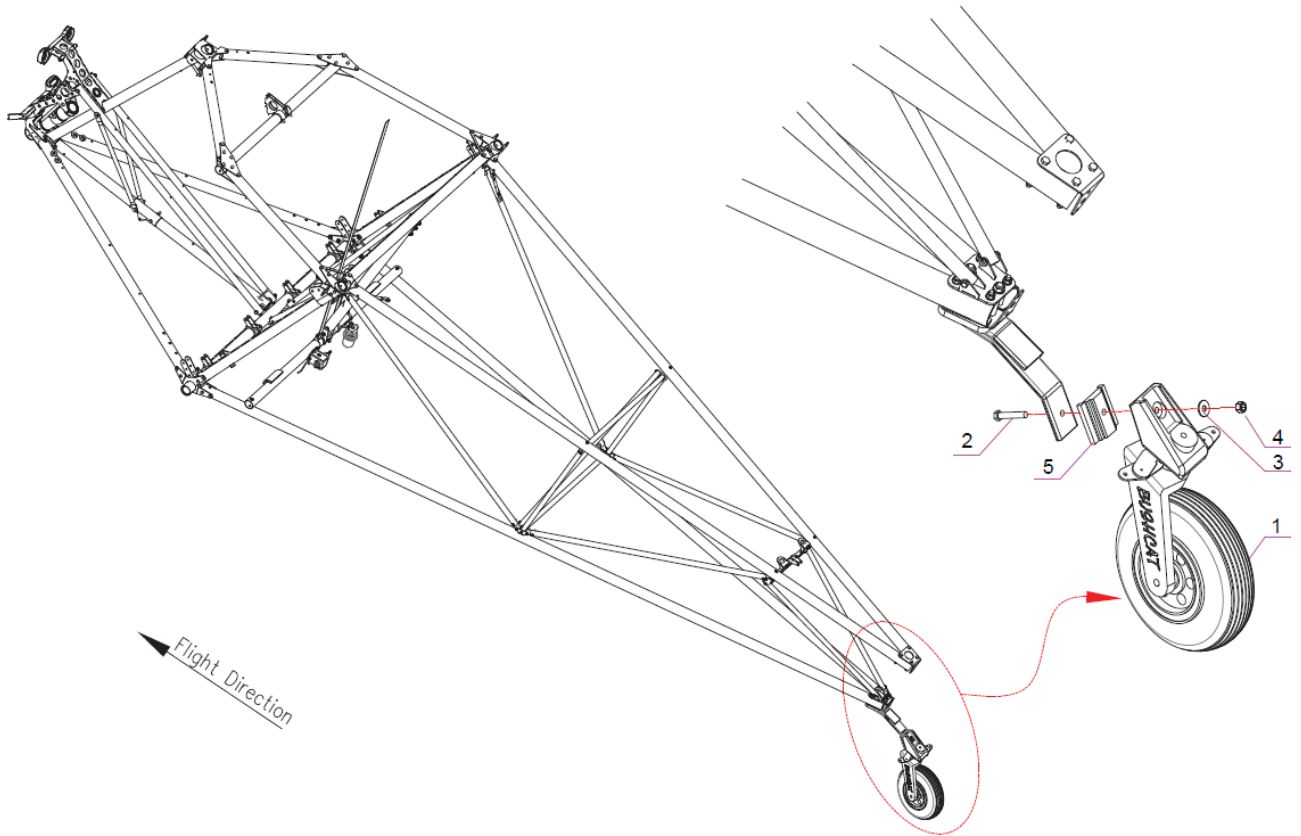

Figure 2.4.2.1: Tail wheel installation procedure
2. Assemble as per the assembly steps shown in figure 2.4.2.1.